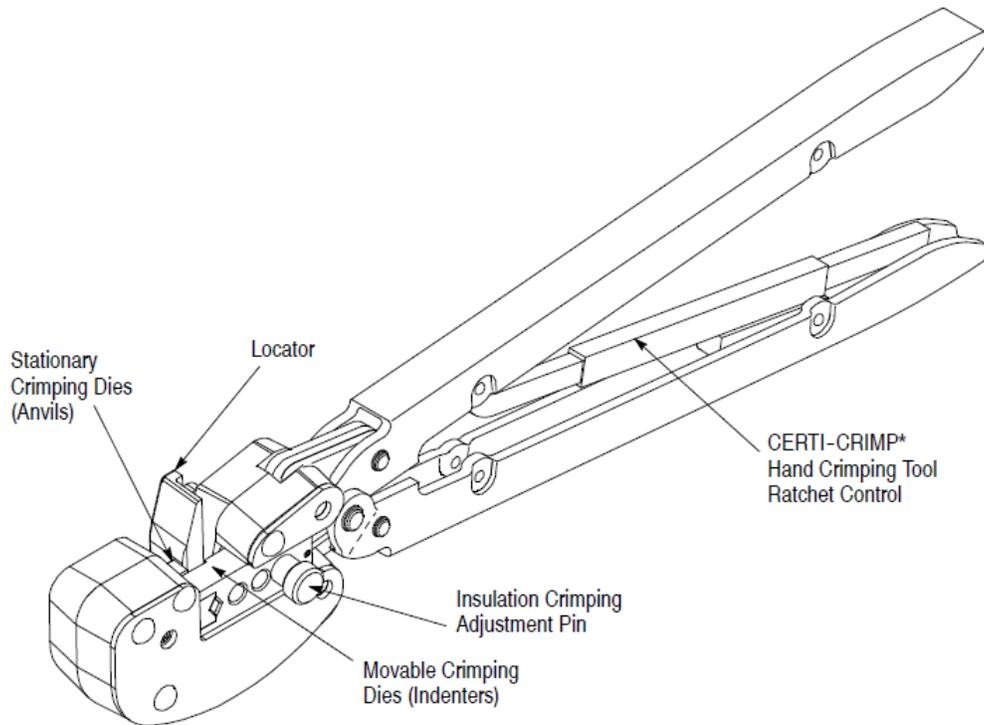

Figure 1
Each tool features a head containing two stationary crimping dies (anvils) and two movable crimping dies (indenters), a locator, an insulation crimping adjustment pin, and a CERTI-CRIMP hand crimping tool ratchet control (see Figure 1).
1. Insert the insulation crimp adjustment pins into the No.3 position (refer to Figure 1).